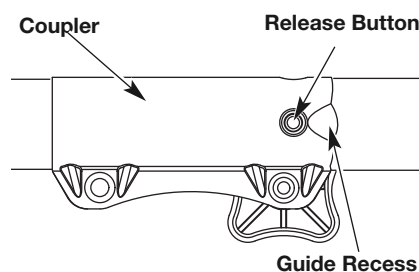

Fig. 4
For decorative edging with a string trimmer attachment, lock the release button into the 90° edging hole (Fig. 4).
2. Press and hold the release button (Fig. 4).